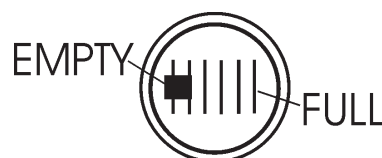

Figure 8. Fuel Gauge
3. Read the fuel gauge located on top of the fuel tank (Figure 8) to determine if the fuel level is low. If fuel is low, replenish with **clean unleaded fuel**.